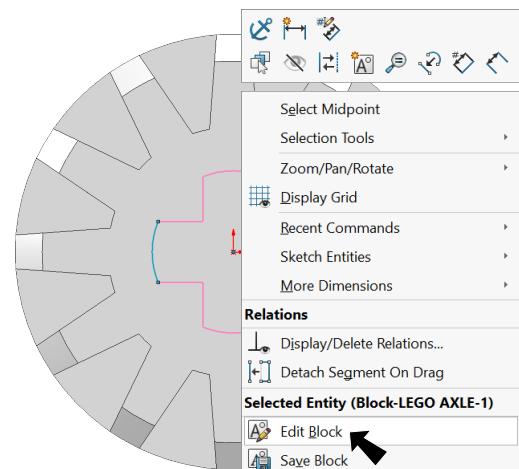

Fig. 27
Step 5. Edit Block, **Fig. 27**. To edit block, **right click the block** and click **Edit Block**.